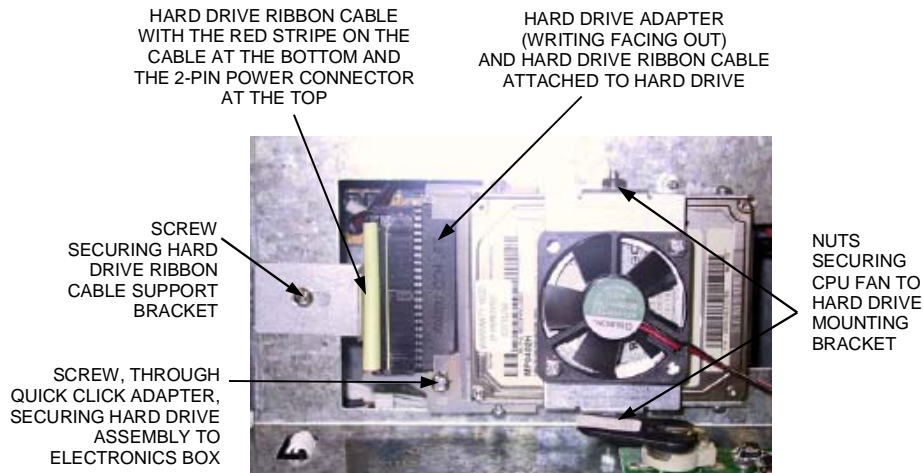

FIGURE 2 - QUICK-CLICK HARD DRIVE ASSEMBLY ON ELECTRONICS BOX
4. Loosen the screw on the hard drive support bracket and disconnect the hard drive adapter, with the attached ribbon cable, from the hard drive (see Figure 2).
6. Separate the CPU fan mounting plate from the hard drive mounting bracket by removing the 2 nuts (see Figure 2).
1. Reattach the CPU fan mounting plate to the supplied hard drive assembly with the 2 existing nuts (see Figure 2).
3. Slide the hard drive assembly into place on the electronics box cover and secure it with the supplied screw (see Figure 2).
4. Secure the ribbon cable in place with the hard drive support bracket and tighten the screw (see Figure 2).